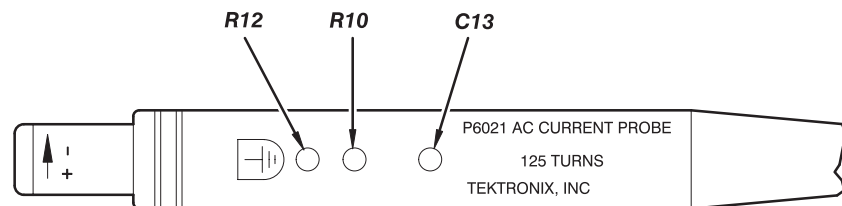
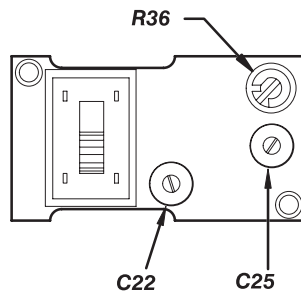

Figure 7: Location of probe adjustments
Figure 8: Location of termination adjustments
10. The following adjustments affect aberrations and flat-top response: C13, R10, and R12 of the probe (see Figure 7) and C22, C25, and R36 of the termination (see Figure 8). To minimize aberrations and achieve the best flat-top response, the following procedure is recommended. However, these adjustments interact; you may have to readjust several of them to ensure minimum aberrations..